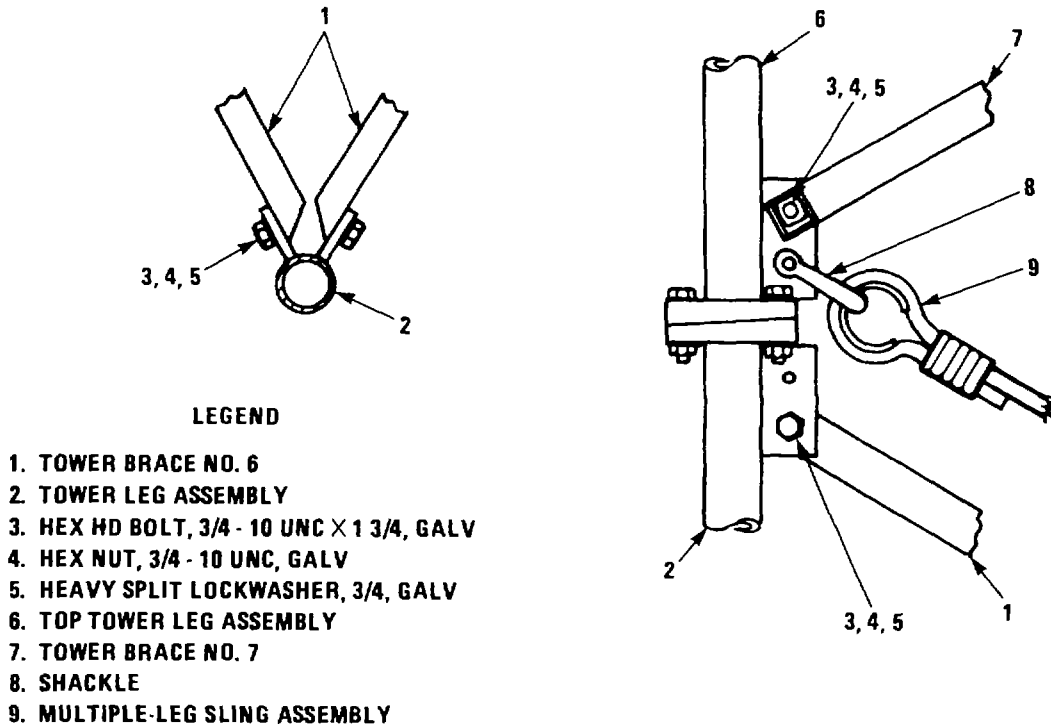

Figure 2-8. Brace Attachment and Multiple-Leg Sling Assembly Connection
- (1) Assemble tower section No. 3 by the same procedure as for tower section No. 1 (paragraph 2-12a, steps (4) through (6)), except attach tower braces No. 5 instead of No. 1 and tower braces No. 6 instead of No. 2. Make sure that braces No. 6 are attached to leg assemblies in the manner shown in figure 2-8.